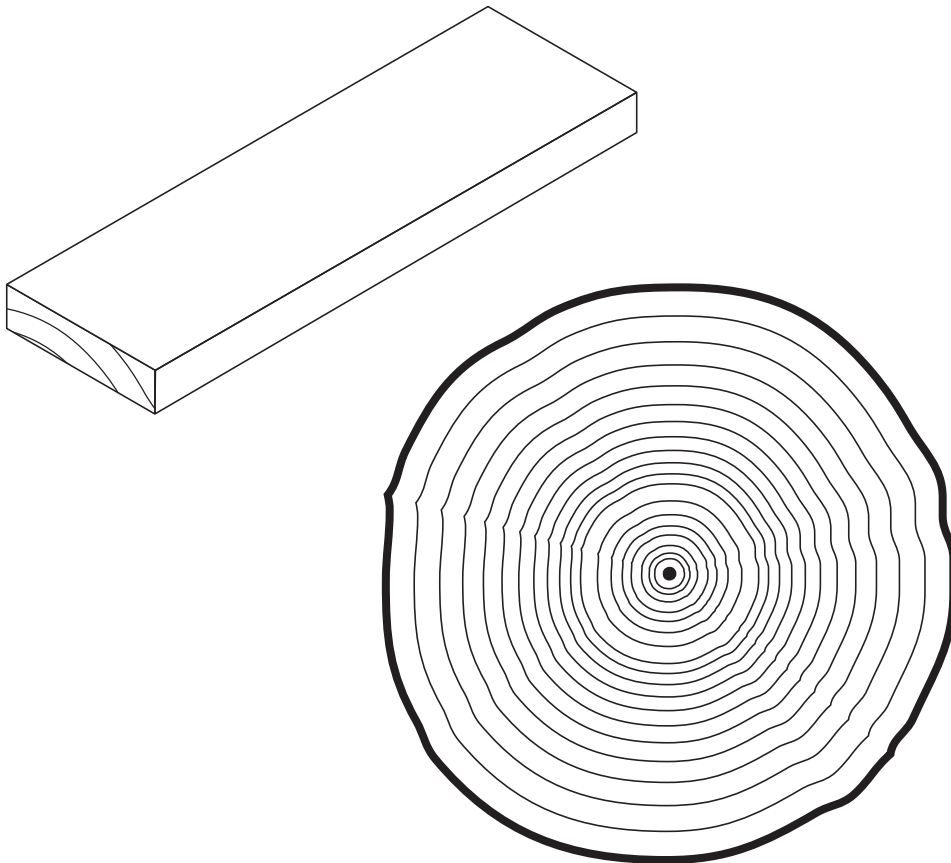

FIG. 10
- (i) Figure 10 represents a timber board and a cross-section of a log.